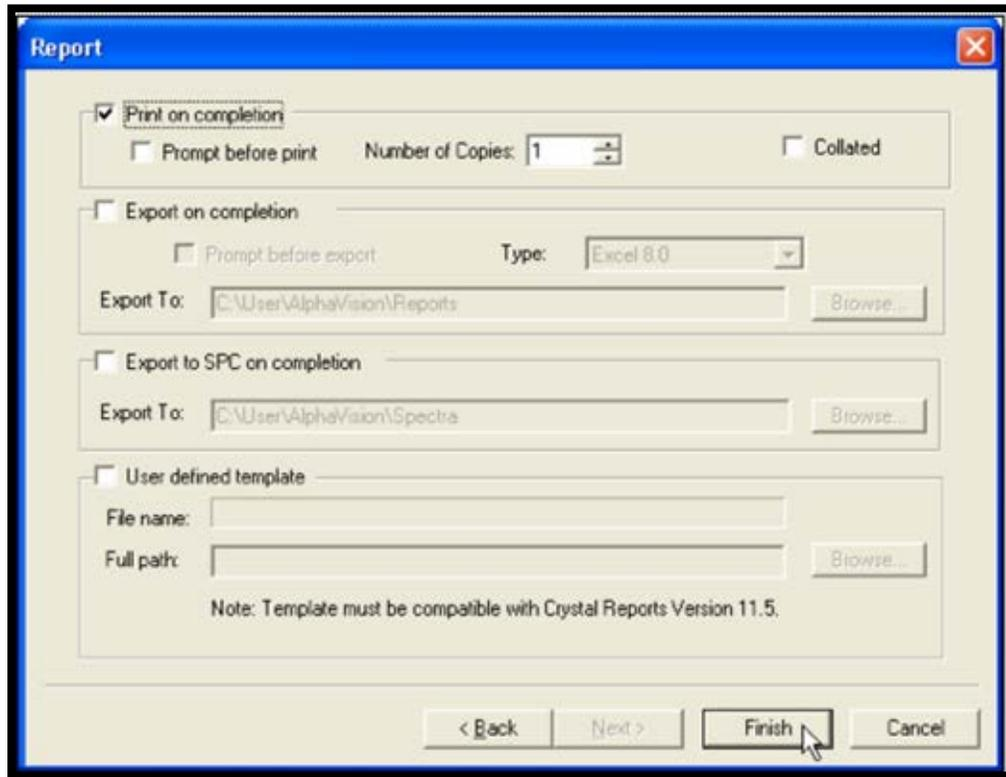

Figure 195. Report – Print on Completion
- 7) The Report screen (Figure 195) has a print option, and additionally allows users to export the results to various formats (see Section 2.6.1) or a user-defined Crystal Reports v11.5 template. The spectrum can also be exported to an ORTEC .SPC file. (Also remember the Report Window gives a wider choice of export formats.) In this example, click **Print on completion** to print a hardcopy of the results for each background analysis.